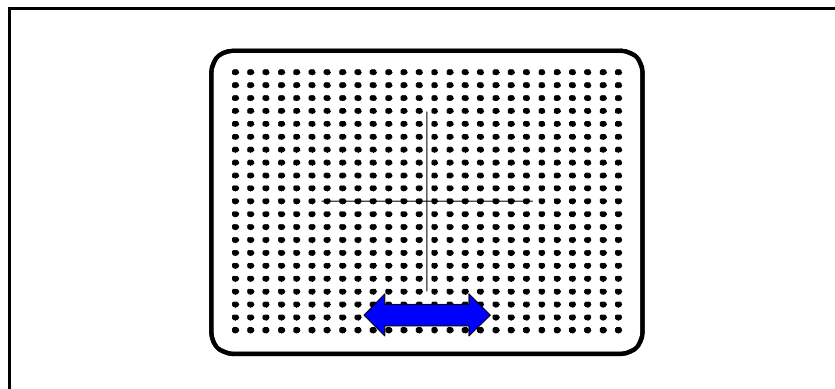

Figure 9-10. Calibration pattern.
2. Adjust the camera unit, in the Y-wise direction, until the crosshairs are centered to the calibration pattern (Calibration plate L-029-0506-3). See Figure 9-10.